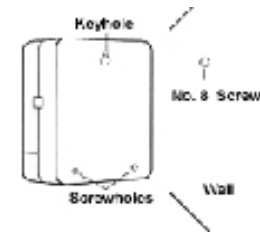

Figure 15: Mounting the Timer
- Screw a No. 8 screw through each of the two holes at the bottom of the controller box into the wall [See Figure 15].